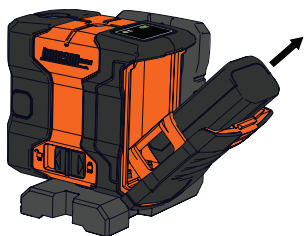

Figure 3
(Figure 3)
- If a Li-ion battery is inserted in the unit, open the battery compartment as described earlier. (Figure 1 - Figure 3)